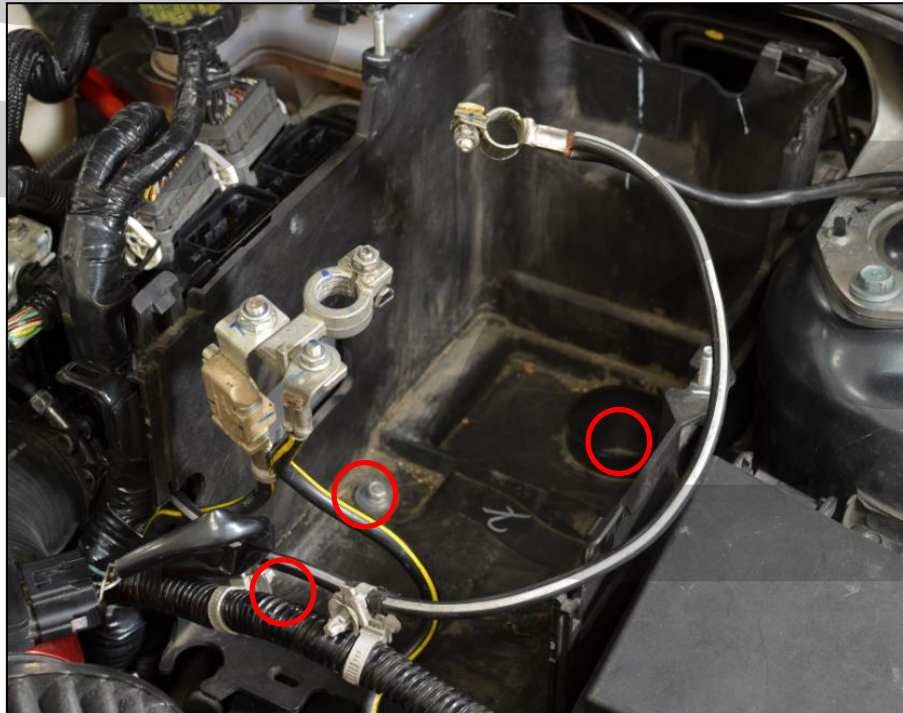

Figure 1c
- f) **Remove the battery box.** Use a 10mm socket and ratchet to remove the three bolts that hold the battery box. Shown with the **red circles** in **Figure 1c**.